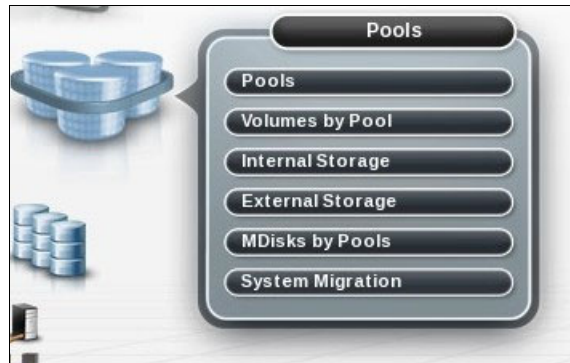

Figure 9-2 Pool menu
1. Hover the cursor over the Pools icon, and the system displays the Pools menu (Figure 9-2 on page 128). Click **MDisks by Pools**.